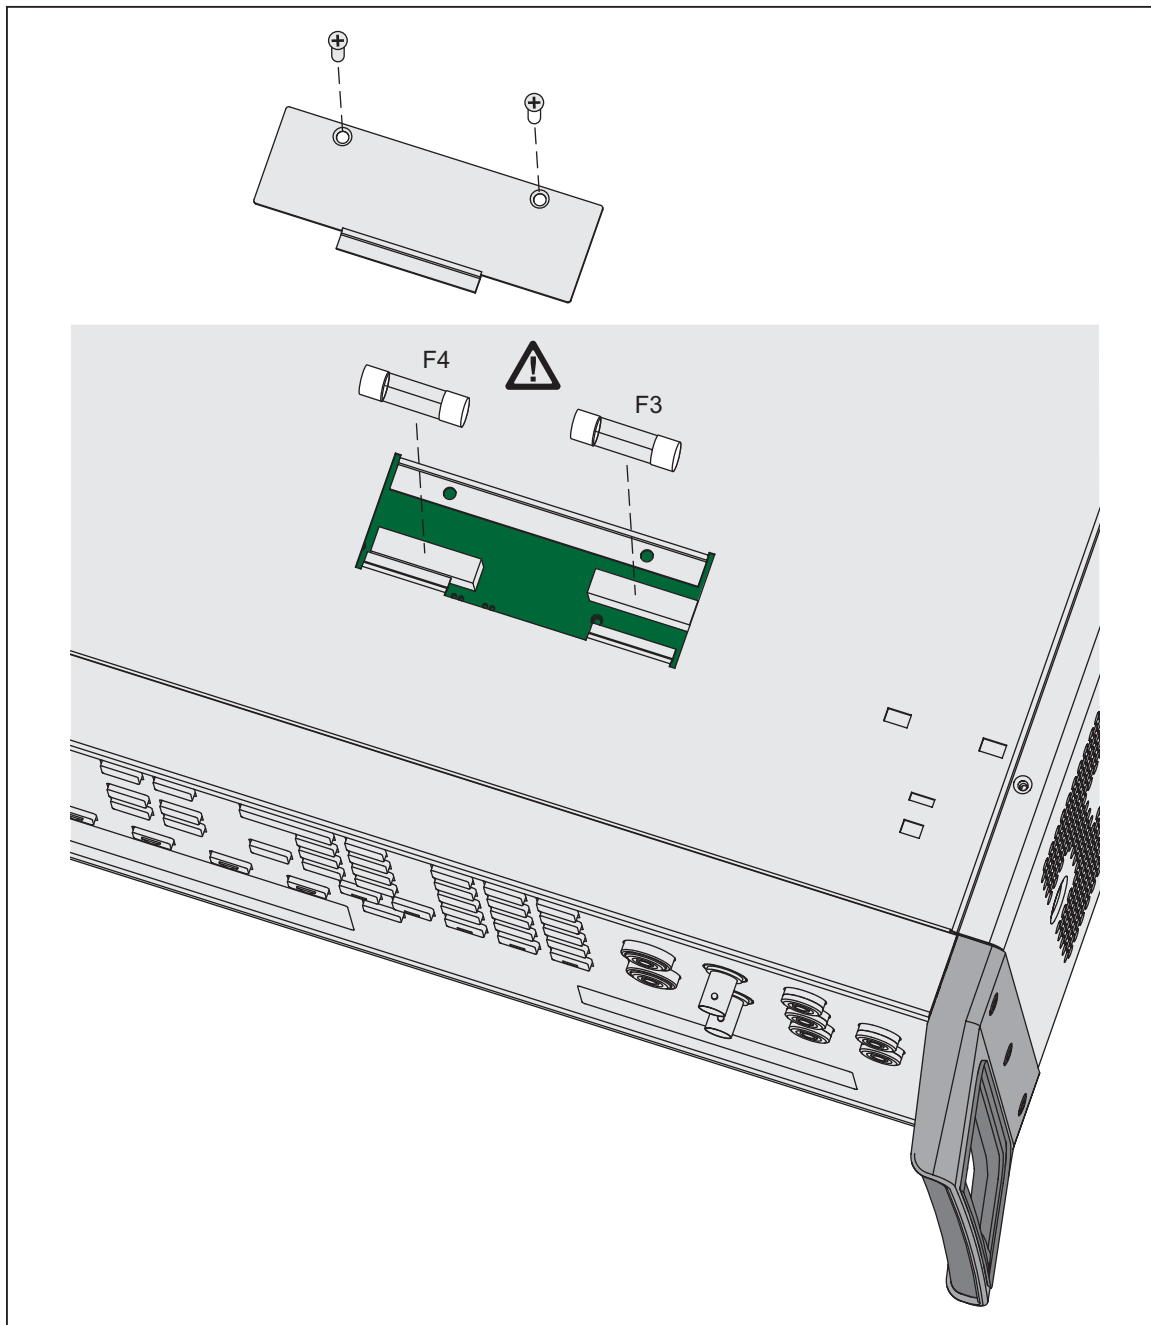

Figure 24. Current Fuse Compartment
3. Remove the two screws that hold the fuse compartment cover in place and remove the cover as shown in Figure 24.